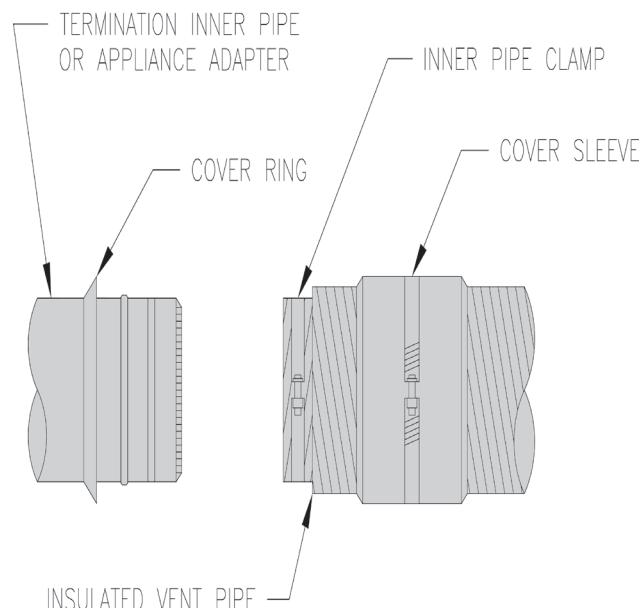

Figure 19: Vent Pipe Assembly to Vent Termination Inner Pipe and Appliance Adapter
3. Pull outer vent pipe back 1" to 2" from end of inner vent pipe and remove insulation; firstly, at vent pipe end to be connected to the vent termination; secondly, at vent pipe end to be connected to the appliance adapter. See Figure 19.
4. Install supplied Cover Sleeve Assembly onto each end of outer vent pipe, and, move the assembly a few inches back from the end; firstly, at vent pipe side to be connected to the vent termination; secondly, at vent pipe side to be connected to the appliance (boiler outlet collar) adapter. See Figure 19.
5. Slide supplied Cover Rings; firstly, over stop bead on vent termination inner pipe; secondly, over stop bead on appliance adapter. See Figure 19.